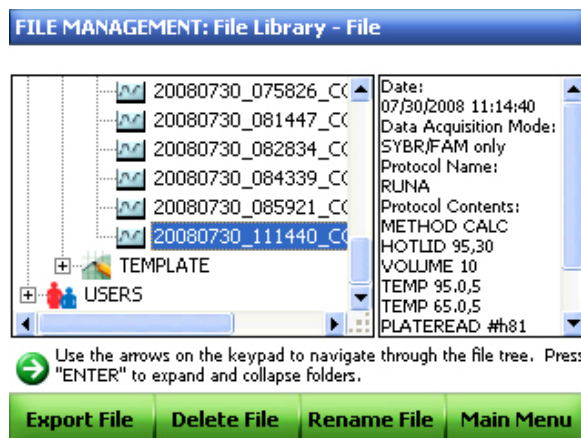

Figure 42. Exporting stand-alone run data to a USB key.
4. Press **Export File** (F1) to export the run data (.zpcr) to the USB key (Figure 42).